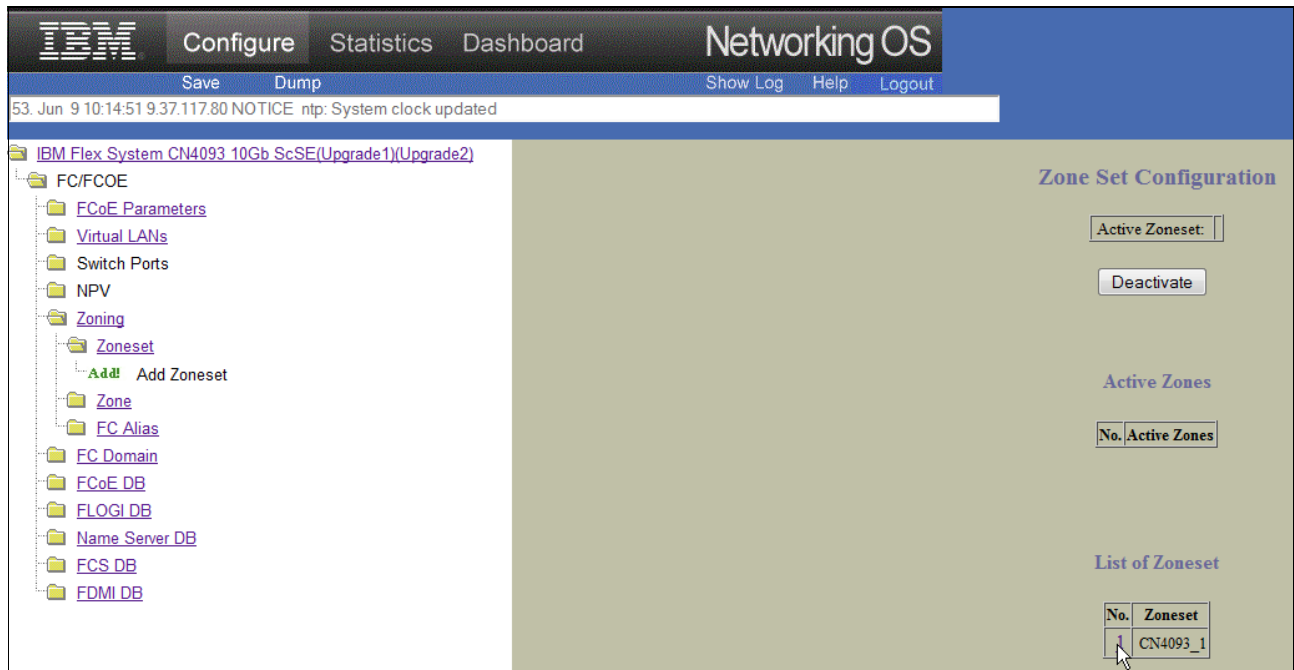

Figure 8-16 List of Zoneset
15. Click on the new Zoneset as shown in Figure 8-16.